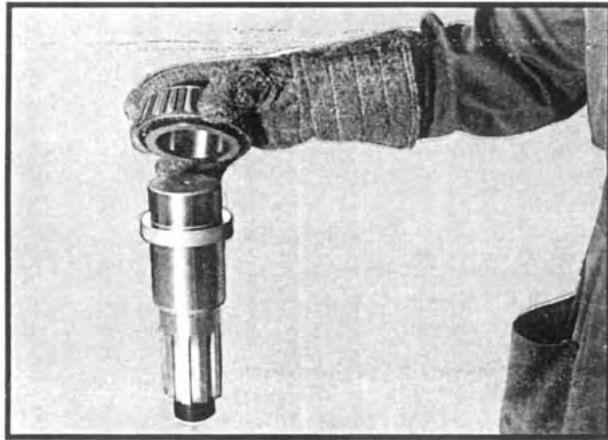

Fig 37
2. Heat and install the bearing cone assembly against the shoulder on the non-threaded end of the shaft. See Figure 37.